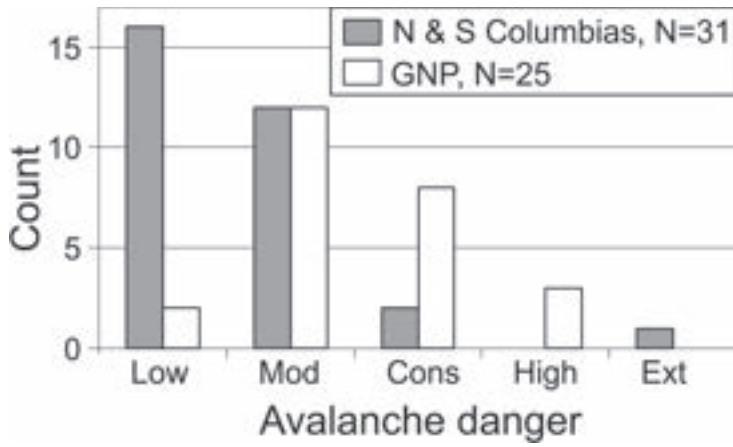

Figure 2. Distribution of danger ratings when corresponding local nowcasts for tree-line or below tree-line were available.
Occasionally, the regional forecast or the local nowcast for treeline or below treeline involved more than one rating, e.g. “moderate increasing in the afternoon,” or “moderate with areas of considerable.” To simplify the analysis—and not because we question the relevance of such ratings—these two-level or transitional ratings were excluded, leaving 25 local nowcasts in Glacier National Park, six in the Dogtooth Range of the North Purcells, and 25 in the Cariboos near Blue River BC. These were paired with regional danger ratings as shown in Table 1. Because of differences in spatial scale, the 25 data from Glacier National Park were assessed separately from the 31 data from the North Purcells and Cariboos. The distributions of the regional ratings that were paired with nowcasts are shown in Figure 2. We used the GNP ratings prepared on the morning of each nowcast. Ratings for the day of the nowcast that were produced one or two days prior to the nowcast are analyzed in the next section.
The second reason for the apparent under-estimation of avalanche danger by the CAC regional ratings involves the days chosen for the observations. For four of six cases in the North Purcells, the danger rating was low for the South Columbia Mountains, and for 12 of 25 cases in the Cariboods, the danger rating was low for the North Columbia Mountains (Figure 2). When the danger rating is low, the local nowcast cannot be lower and hence the distribution of the difference is truncated, i.e. each difference has to be 0 or negative. (There was only one case in which the observations were made when the regional danger rating was extreme and in this case the local nowcast was also extreme.) Considering these two factors, there is no evidence of systematic under-estimation of avalanche danger in the CAC forecasts.
2. there are differences in the distributions of danger ratings for the forecast regions. Specifically, the CAC dataset involves an unusual number of low ratings (Figure 2) which skews the distribution of differences.